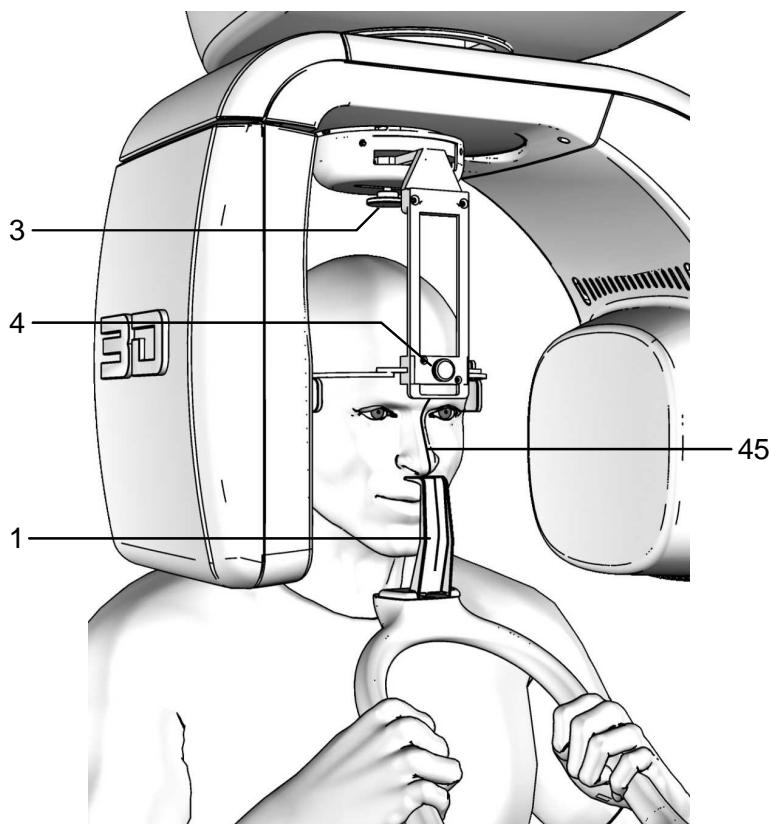

Figure 22 – TMJ closed mouth positioning
4. Verify that the temple clamp device is in the central position (Figure 14), and if necessary move it using the appropriate control on the top of the support (3 - Figure 22).
5. Place the patient in temple clamp by placing the chin on the surface of the relevant support (Figure 22); the hands should rest on the front handgrips.
8. Press the key "Centring devices ON" (14) .
Using the laser of the midsagittal plane as a reference only, place the patient's head so that the beam falls on the corresponding anatomical reference (Figure 22).
9. Place the temple clamp in contact with the patient's head by means of the appropriate knob (4 - Figure 22).